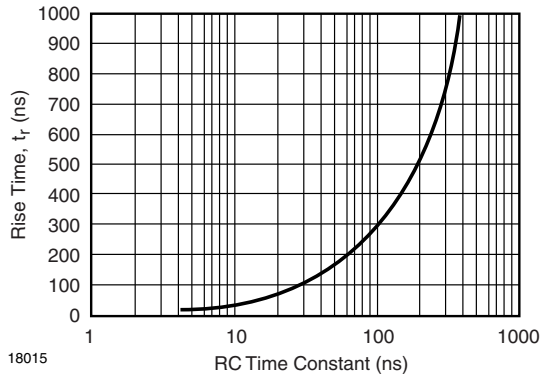

Fig. 14 - Typical Rise Time vs. Load for  $V_{CC} = 5\text{ V}$  (Test Circuit See Figure 15)
Details of the relationship between the rise time  $t_r$  and the pull-up resistor  $R_P$ /load capacitance  $C_L$  are shown in figure 14.
As previously mentioned above, the pull-up resistor has to be chosen in accordance with the equations (9), (10), and (12). Figure 14 plots the expected rise time  $t_r$  versus the time constant  $\tau = R_P \times C_L$ . Unlike the rise time  $t_r$ , the fall time  $t_f$  is mostly independent of  $R_P$  and around 5 ns.